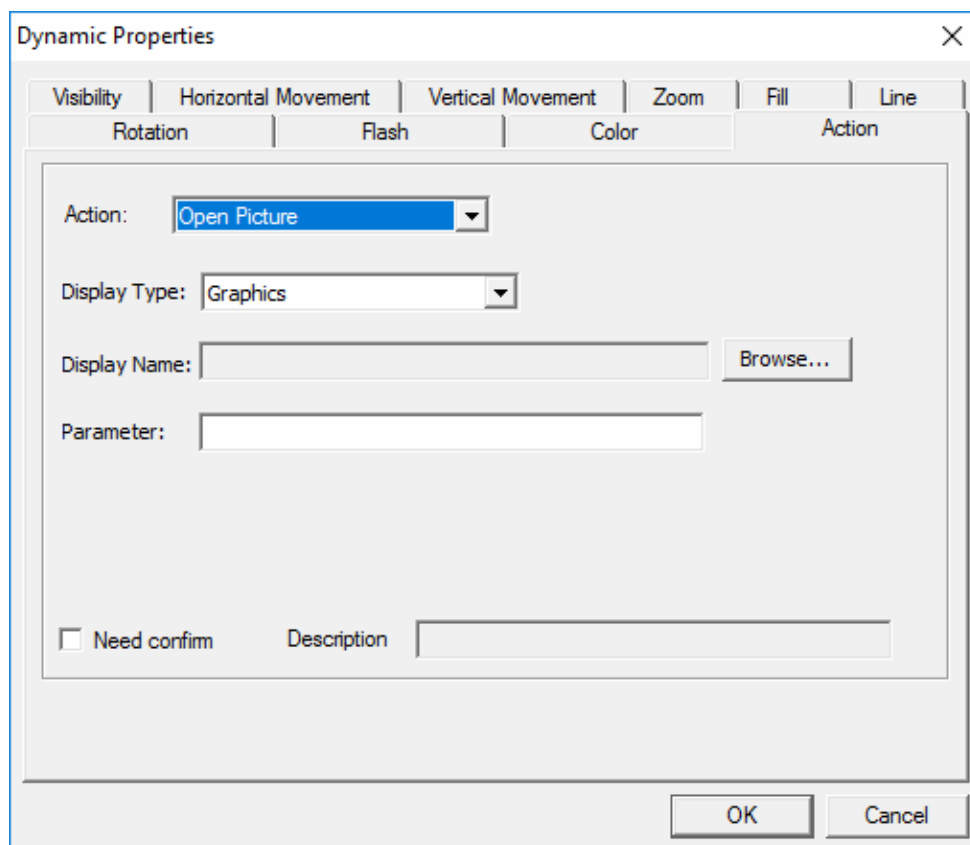

Figure 4-11 “Dynamic Property” setting interface of Action
It is used to set the dynamic functions of certain graphics object and implement action by clicking it in supervision. The “Dynamic Property” setting interface for Action is shown in Figure 4-11
“Action” means the corresponding action executed when clicking the object as trigger condition in supervision. As shown in Figure 4-11, click  beside “Action” to open the pull-down menu, which includes action options of “No, Open Picture, Pop-up Picture, Previous Page, Next Page, Run Program, Write Tag Value, Reverse Tag, Display Layers, Hide layers, Reverse Layers, Print Screen, Login, Logout, Exit Graphics, Alarm Silence, Close Page, Pop-up Panel and Acknowledge Alarm”. To implement the operation, users should click the graphics object after completing the Action Dynamic Property settings.
- Open Picture: It is used to switch interfaces among Graphics, Data View, Overview, Tuning Group, etc. The “Open Picture” setting interface is shown in Figure 4-11. First select the Picture type (choose one from Graphics, Alarm Viewer, Overview, Tuning Group, Trend, Data Viewer, System Status, System Alarm and System Introduction) to open, and then click the “Browse” button beside “Screen” and select the picture to be switched to. Select “Confirm Dialog Box” and input the confirmation